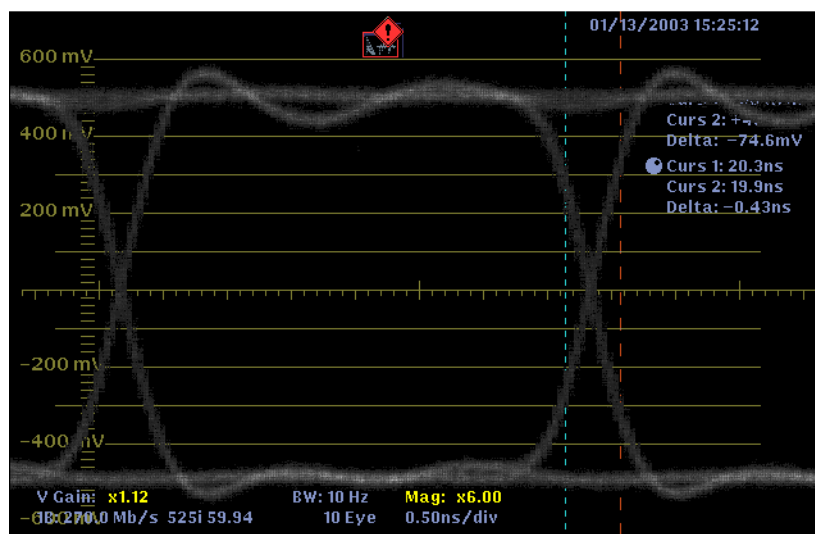

Figure 3-8: Timing Cursors alignment for measuring 20-80% rise time
- b. Position the first timing cursor at the crossing of the rising edge of the Eye waveform and the graticule line two divisions above the bottom of the waveform as shown in Figure 3-8.
- c. Position the second time cursor at the crossing of the rising edge of the Eye waveform and the graticule line two divisions below the top of the waveform as shown in Figure 3-8.